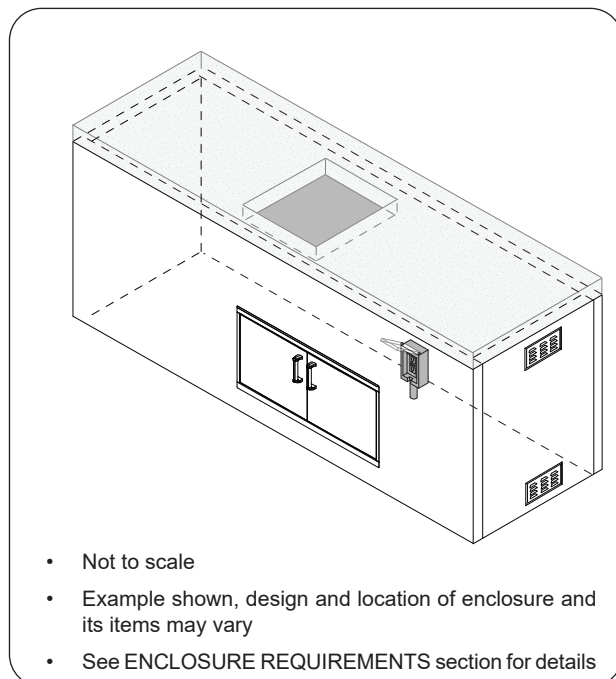

Fig. 26-1 Enclosure construction overview
- Construct the enclosure in an appropriate location (ensure all requirements of this manual and all local codes are met when determining location). See Fig. 26-1.